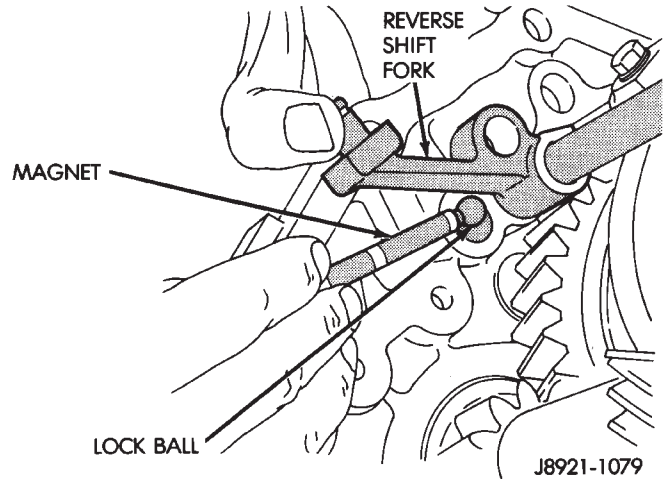

Fig. 68 Remove Fifth Gear Shift Rail Lock Ball
(20) Retrieve the fifth gear shift rail lock ball from the intermediate plate using a magnet (Fig. 68).